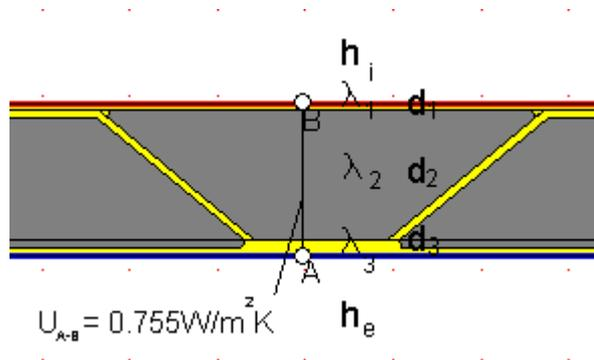

Figure 4
- A requirement is that all the layer boundaries are parallel and perpendicular to the cross section line as in figure 4. The calculation of the U-value, therefore, only makes sense in the boundary areas and in the middle of this construction.